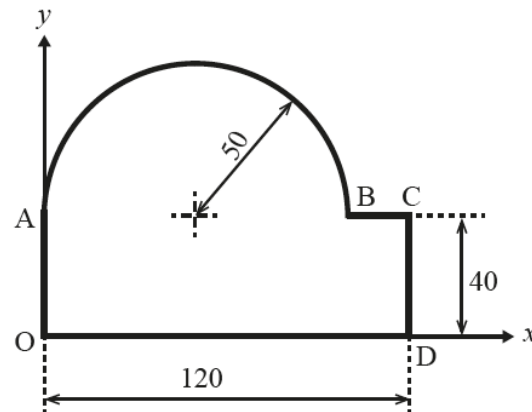

Fig. 1
- 1 An aluminium plate with a uniform thickness of 5 mm comprises a semi-circular section with a radius of 50 mm and a rectangular section with a length of 120 mm and a width of 40 mm. The plate, OABCD, is shown in Fig. 1 aligned within a Cartesian coordinate system, (x, y) with the origin at corner O.